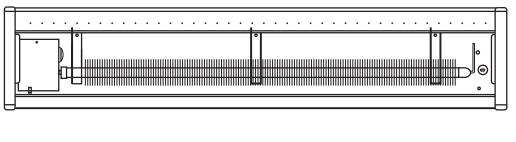

Figure 3
- Position the heater and fasten one end of heater to wall stud with screw in safe drill area as shown in Figure 3. Before fastening to wall stud at other end, place level across top of heater and make sure heater is level. (Figure 4).